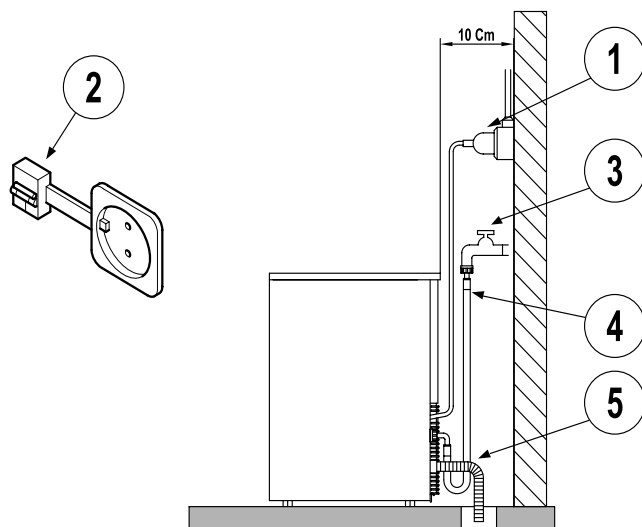
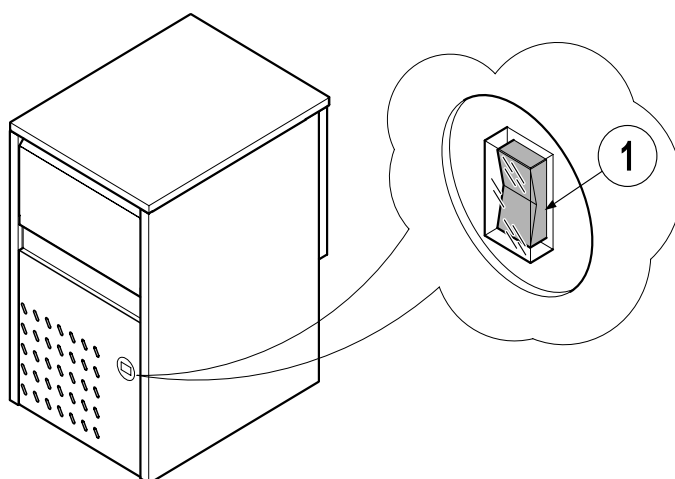

FIG. 2
FIG. 5
- between the mains water supply and the appliance's supply pipe a stopcock is installed so that the water supply can be disconnected if required (Fig. 2 Part 3);
- open the tap (Fig. 2 Part 3) of the water supply pipe;
- plug in and switch on (Fig. 2 Part 2);
- press the switch to power up the appliance (Fig. 5 Part 1). When the appliance starts the switch will light up.
- switch off the appliance (Fig. 2 Part 2) and then unplug it;
- switch off the appliance (Fig. 2 Part 2) and unplug it;
- **electrical system:** make sure that the plug has been correctly inserted and that the switch (Fig. 2 Part 2) and the pushbutton (Fig. 5 Part 1) are both in the 'ON' position
- **water system:** make sure that the stopcock (Fig. 2 Part 3) is 'OPEN';